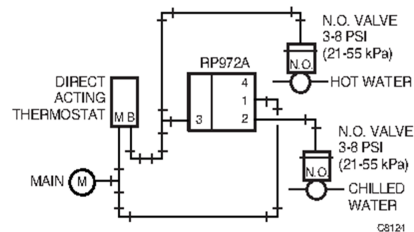

Fig. 6. Use of RP972A to control a cold water valve.
The RP972A is used to reverse a pneumatic signal in direct proportion to the input. Fig. 6 shows how the RP972A controls a chilled water (CW) valve. When the temperature increases, the Direct Acting (D.A.) thermostat outputs an increasing branch line. This closes the Normally Open (N.O.) hot water (HW) valve and, through the reversing action of the RP972A, opens the N.O. CW valve.